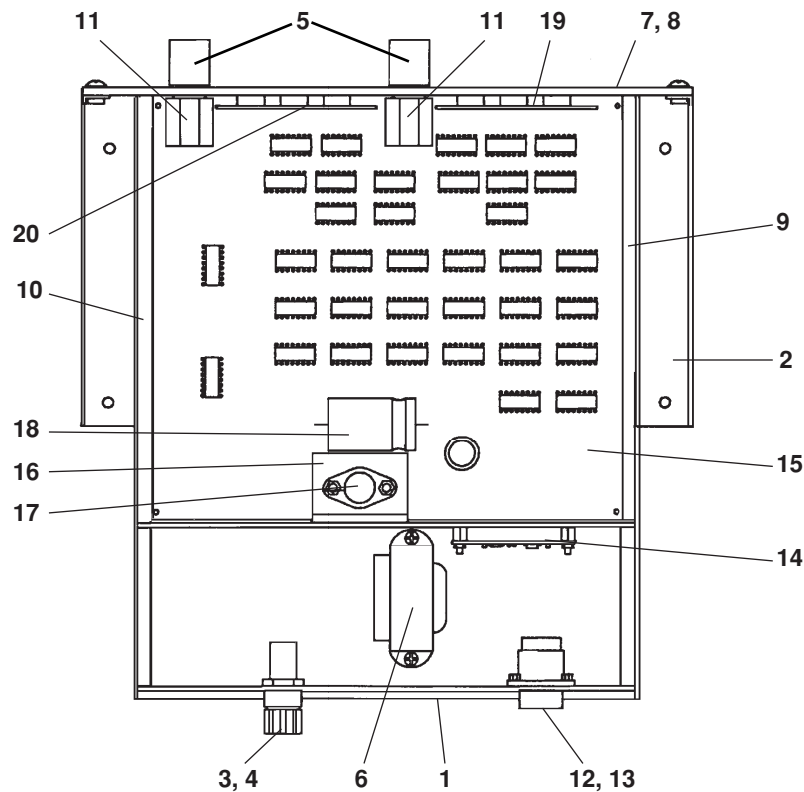

Figure 6-10 Digital Remote Voltage & Current Control Console
* Items are not shown in Figure 6-10.